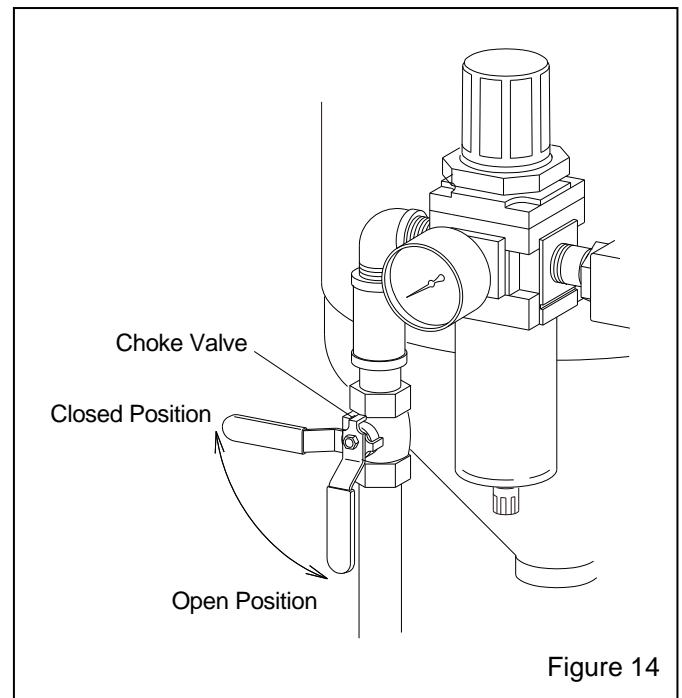

Figure 14
5.3.2 Refer to Figure 14 and close the choke valve, then open the media-metering valve by turning the knob fully counterclockwise. Counting the turns on the metering handle makes it easier to return the valve to the preset position.
5.7 Operation and Function of the Choke Valve Figure 14